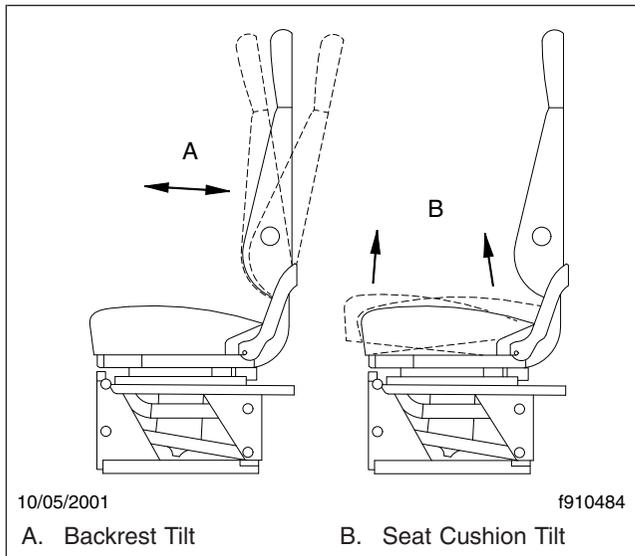

Fig. 3.6, Cushion Tilt Adjustments
5. Backrest Tilt: This adjustment pivots the backrest forward or backward. See Fig. 3.6.
6. Seat Cushion Tilt: This adjustment raises or lowers the front and/or back of the seat (bottom) cushion. This adjustment is easier to perform when all weight is removed from the seat. See Fig. 3.6.
7. Seat Tilt: When this adjustment is made, the seat assembly, both backrest and seat cushion, tilts forward or backward. See Fig. 3.6.